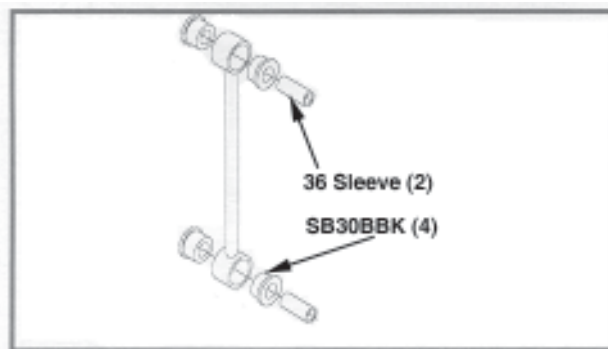
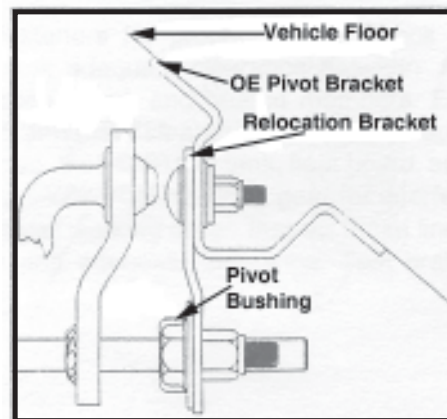

Fig. 6
Fig. 7
- 1. Assemble the links as shown in **Fig. 6**.
- a. Install (2) SB30BBK bushings into each end.
- b. Install (1) #36 sleeve into each end.
- 5. Install pivot bracket as shown in **Fig. 7**.